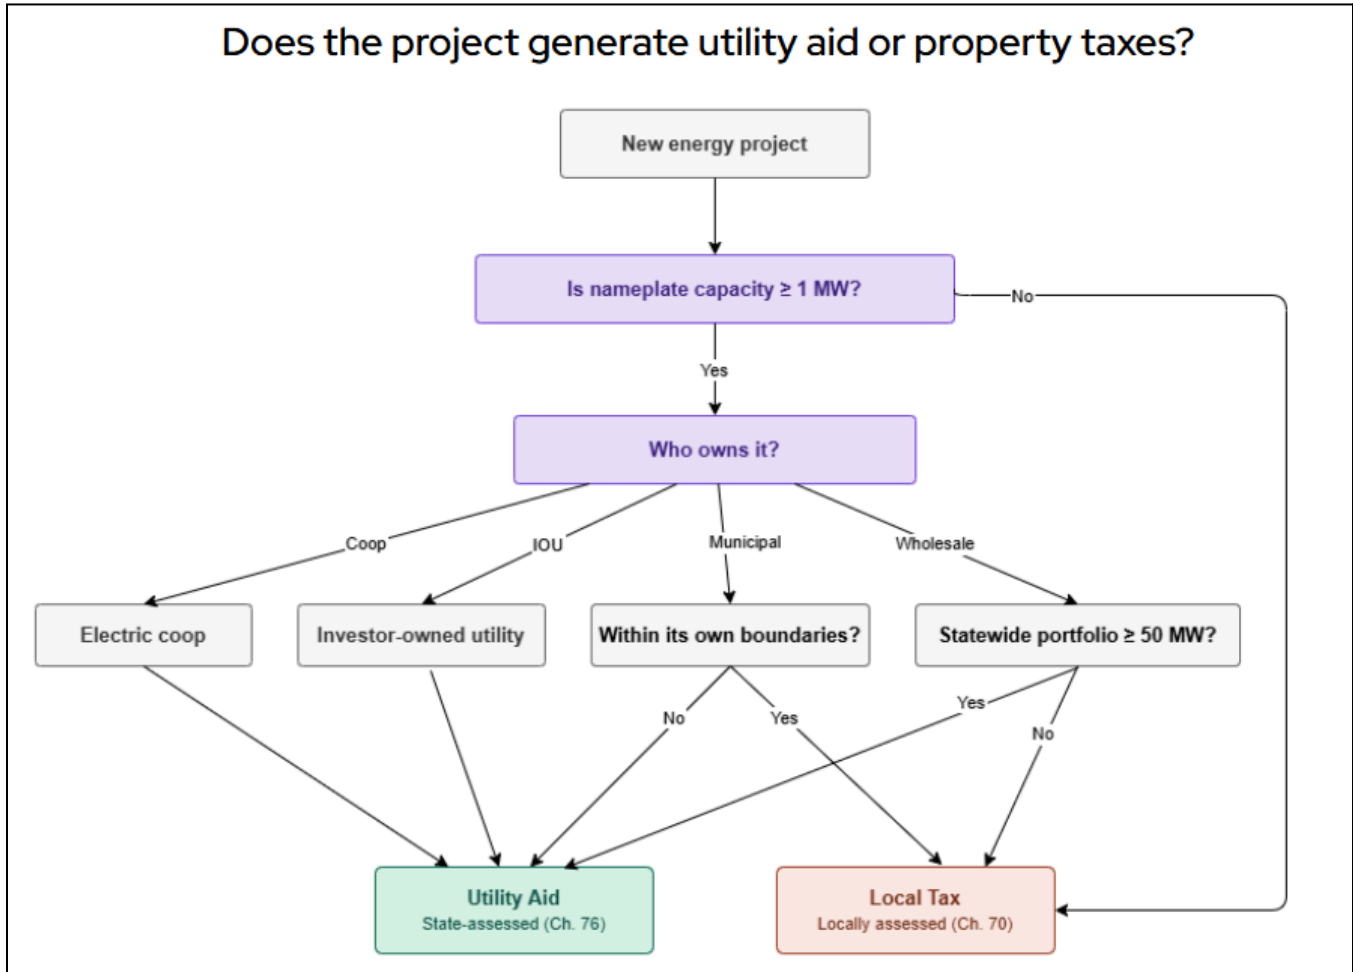

Figure 4-1: Does the project generate utility aid or property taxes?
- **For landowners who farm:** Rent from solar developers typically far exceeds income from farming and provides stable, predictable payments year after year. This consistent revenue can help farms weather market downturns or management transitions. At the same time, the solar project may require adjustments to the overall farming operation that add some cost, especially during project construction. In the rare cases that the project does not generate utility aid, the property may be reclassified as commercial for tax purposes. See Figure 4-1, “Does the project generate utility aid or property taxes?” for a flow chart on when this situation may occur. Landowners should work with operators to confirm the utility aid status of any projects they’re considering hosting.